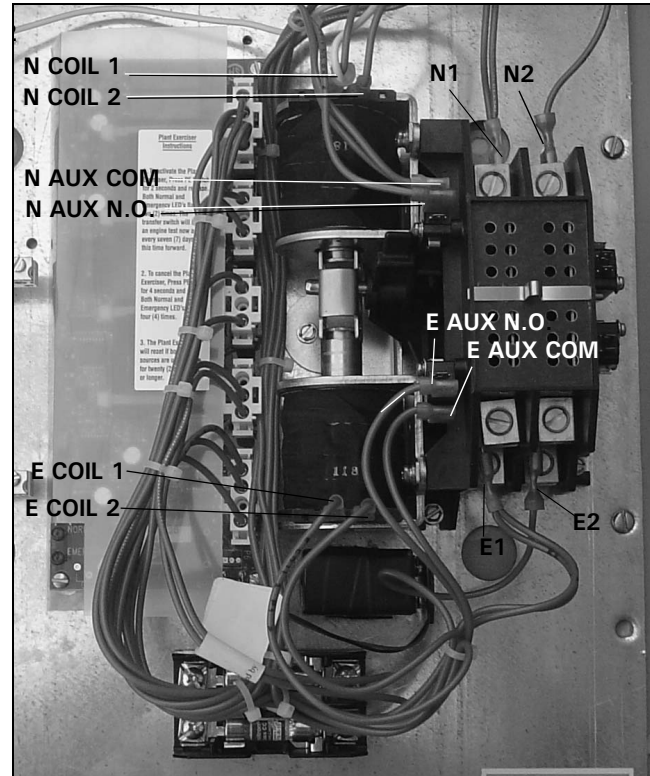

Figure 39. Replacing the Contactor.
- Step 2:** Note their location then disconnect the twelve (12) red wires from the contactor (see Figure 39).
- Step 3:** Remove the four (4) screws securing the contactor to the base plate using a blade screwdriver or 0.25 in. socket or nut driver. Remove the contactor.
- Step 6:** Reattach the twelve (12) red wires to the contactor. Examine each wire to find the name then refer to Figure 39 for the correct connection point.
Step 3: Remove the two (2) screws securing the engine start contacts to the base plate using a blade screwdriver or 0.25 in. socket or nut driver.
Step 4: Note their location then disconnect the ten (12) red wires from the contactor (see Figure 39).
Step 10: Reattach the twelve (12) red wires to the contactor. Examine each wire to find the name then refer to Figure 39 for the correct connection point.
Step 11: Reattach the twelve (12) red wires to the contactor. Examine each wire to find the name then refer to Figure 39 for the correct connection point.
Step 3: Note their location then disconnect the twelve (12) red wires from the contactor (see Figure 39).